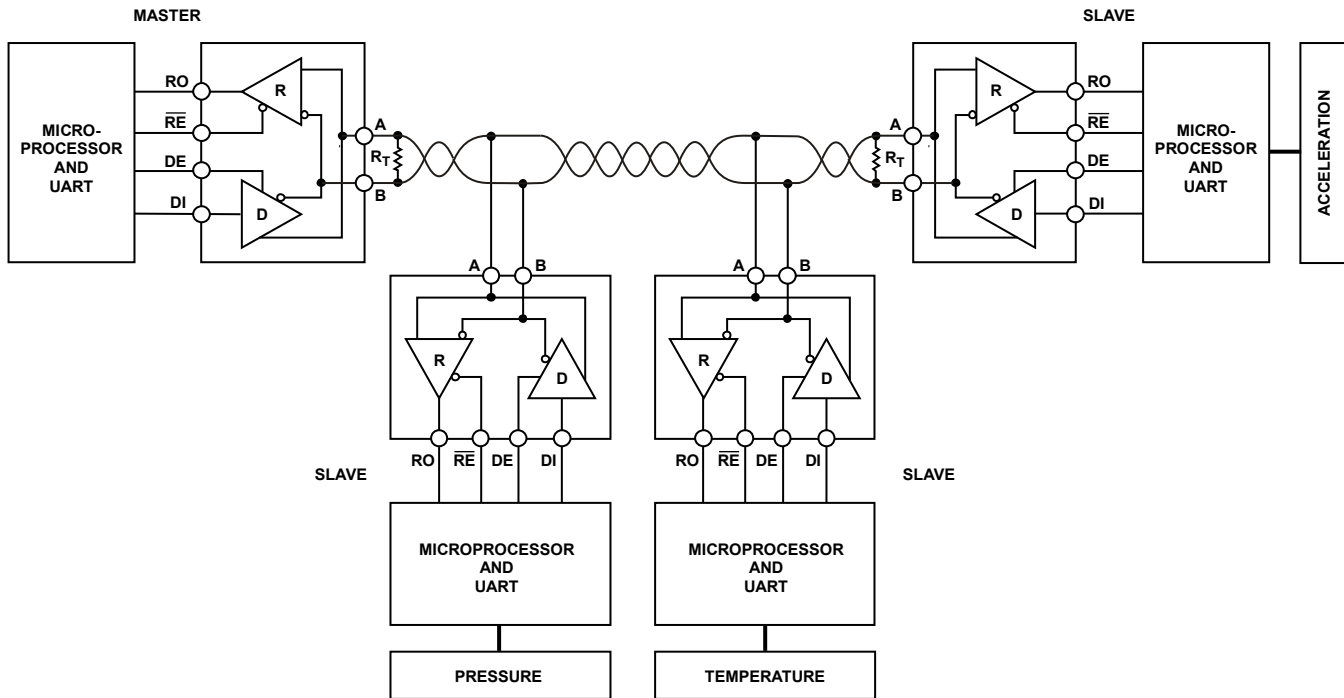

Figure 8. Master/Slave RS-485 Network with No Fail-Safe Biasing of the Network
Figure 8 shows a configuration of a master/slave RS-485 network with no fail-safe biasing. Asynchronous data transmission is typically used in these applications. A start bit indicates the start of a bit sequence and is detected when a transition occurs from high to low. Eight data bits and a parity bit follow the start bit. A stop bit that can be one or two bits long follows this bit sequence. Another start bit starts the next bit sequence. When the last character is sent the line should stay high until the next start bit. This causes problems in multipoint applications when the transceivers connected on the bus are in receive mode simultaneously. This is known as a bus idle condition and in this case, the differential voltage on the bus ($V_{OA} - V_{OB}$) is 0 V. Under this condition, the receiver output (RO) is undefined by the RS-485 standard and, thus, the receiver output can produce random data. This data is connected to the UART and can cause erroneous system operation.